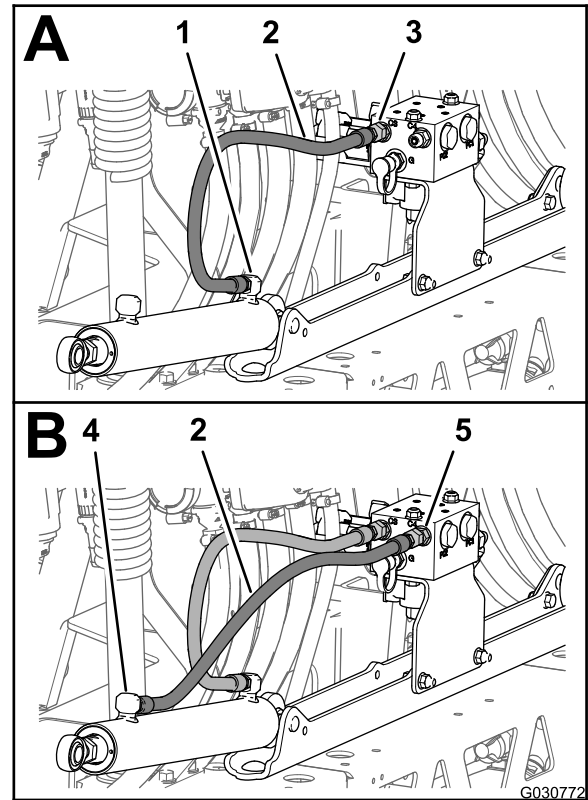

Figure 129
- Loosely assemble a new hydraulic hose (1/4 x 24-3/4 inches) between the extend port of the left boom-lift cylinder and port C3 of the boom-lift manifold (Figure 129).
- Loosely assemble a new hydraulic hose (1/4 x 24-3/4 inches) between the retract port of the left boom-lift cylinder and port C4 of the boom-lift manifold (Figure 129).
5. Torque the hose fittings at the extend and retract ports of the lift cylinders (Figure 129 and Figure 130) to 21 to 26 N·m (15 to 19 ft-lb).
6. Torque the swivel nuts of the hoses at the boom-lift manifold (Figure 129 and Figure 130) to 24 to 30 N·m (17 to 22 ft-lb).